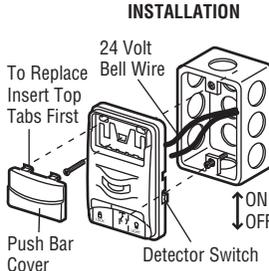

Figure 2
- Strip 7/16" (11 mm) of insulation from one end of bell wire and connect to the two screw terminals on back of door control by color: white wire to 2 and white/red wire to the 1 (Figure 2).